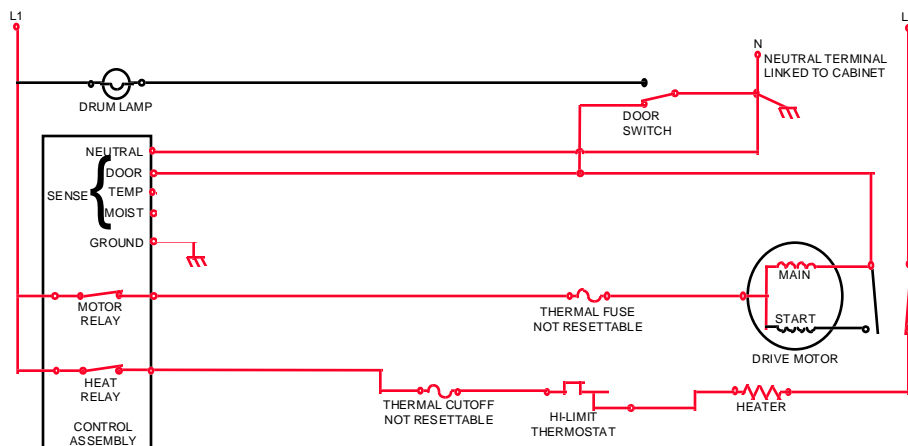

Figure 9
2. The moisture sensor on the back of the dryer drum is not active in Timed Dry. (Fig. 9)